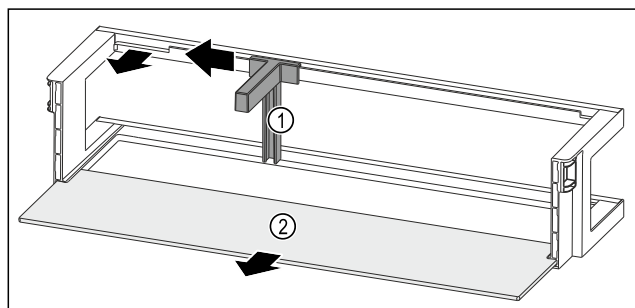

Fig. 240 Door rack with bottle holder and shelf
- ▶ Slide the bottle holder Fig. 240 (1) to the side as far as the recess.
- ▶ Remove the bottle holder Fig. 240 (1).
- ▶ Remove the shelf Fig. 240 (2).